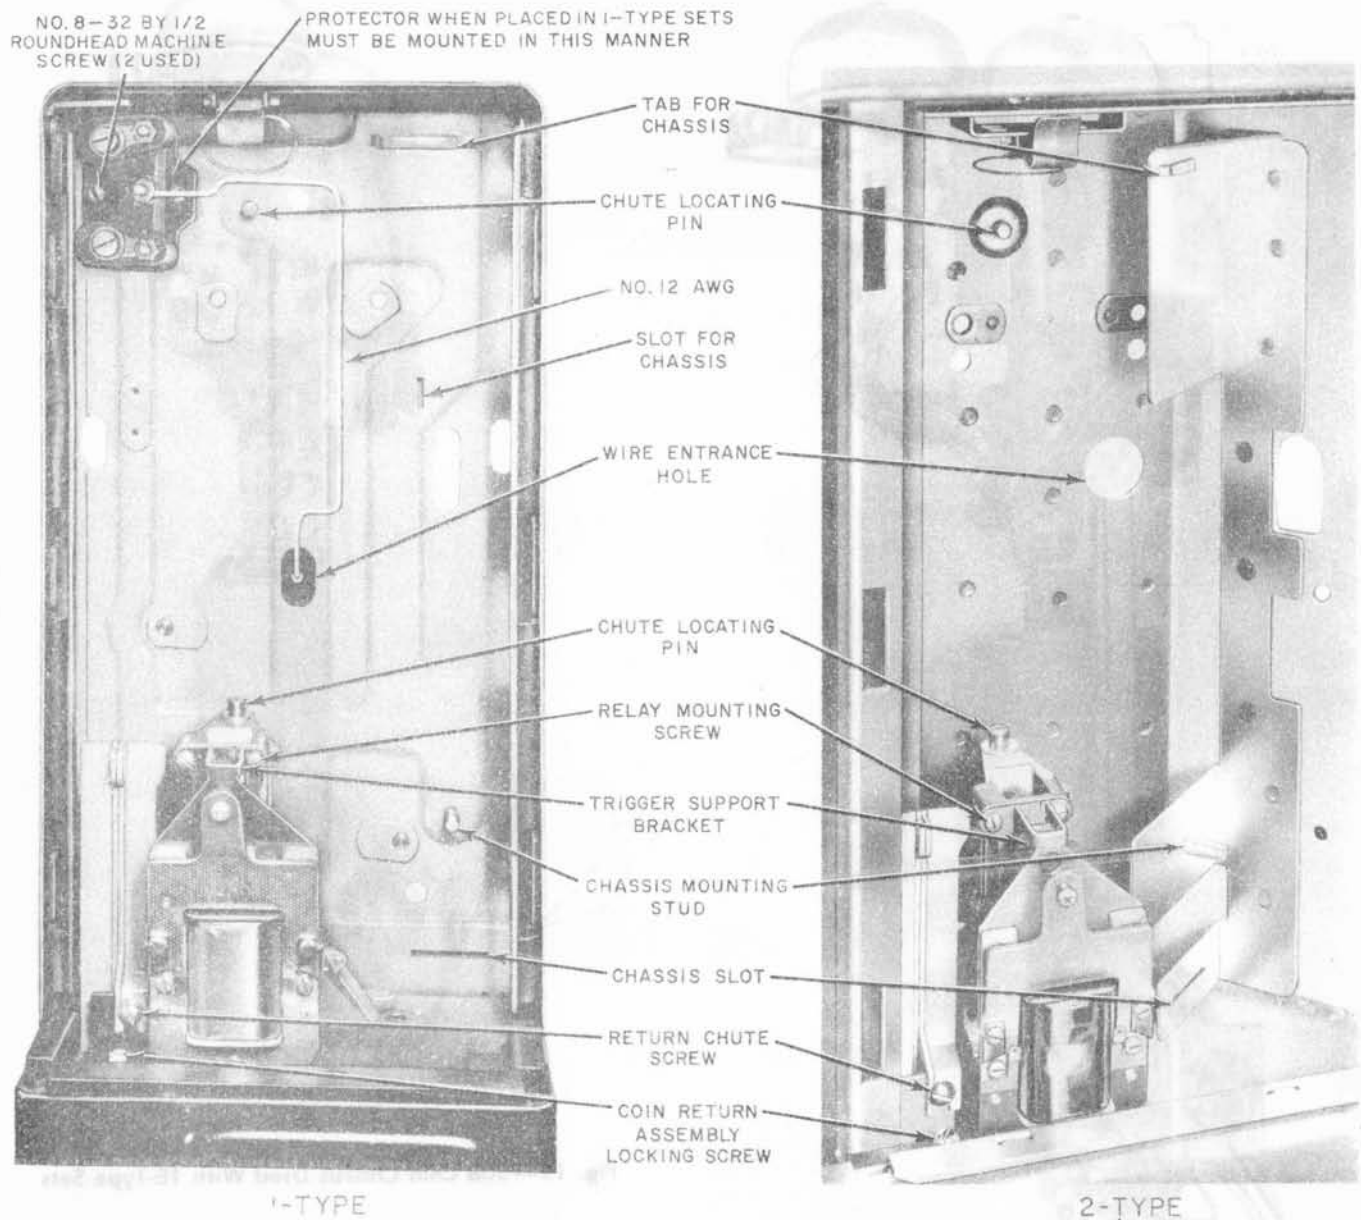

Fig. 20—Housing and Mounting Plate Assembly
- (1) Slide the chassis under the tab as shown in Fig. 20.
- (2) Seat the chassis tabs in the slots.
- (3) Tighten the chassis mounting screws.
- (1) Place the chute totalizer or the chute signal unit on the locating pins at the rear of the hopper assembly and the back of the housing as shown in Fig. 20.